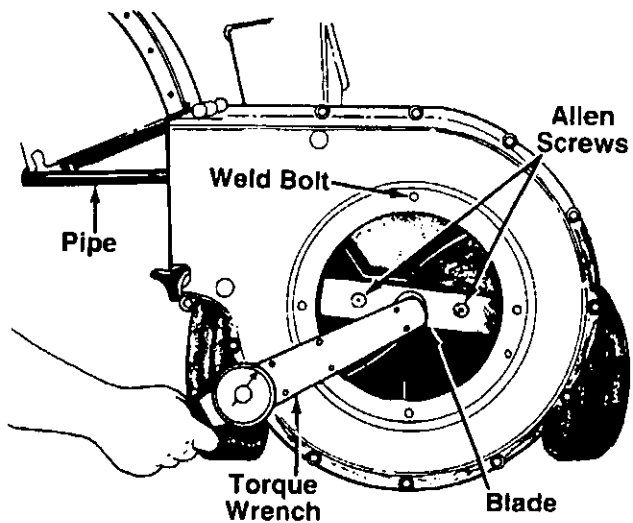

FIGURE 20.—Model 247.780892 Shown
- Lower the hopper assembly. Block up the housing. See figure 20.